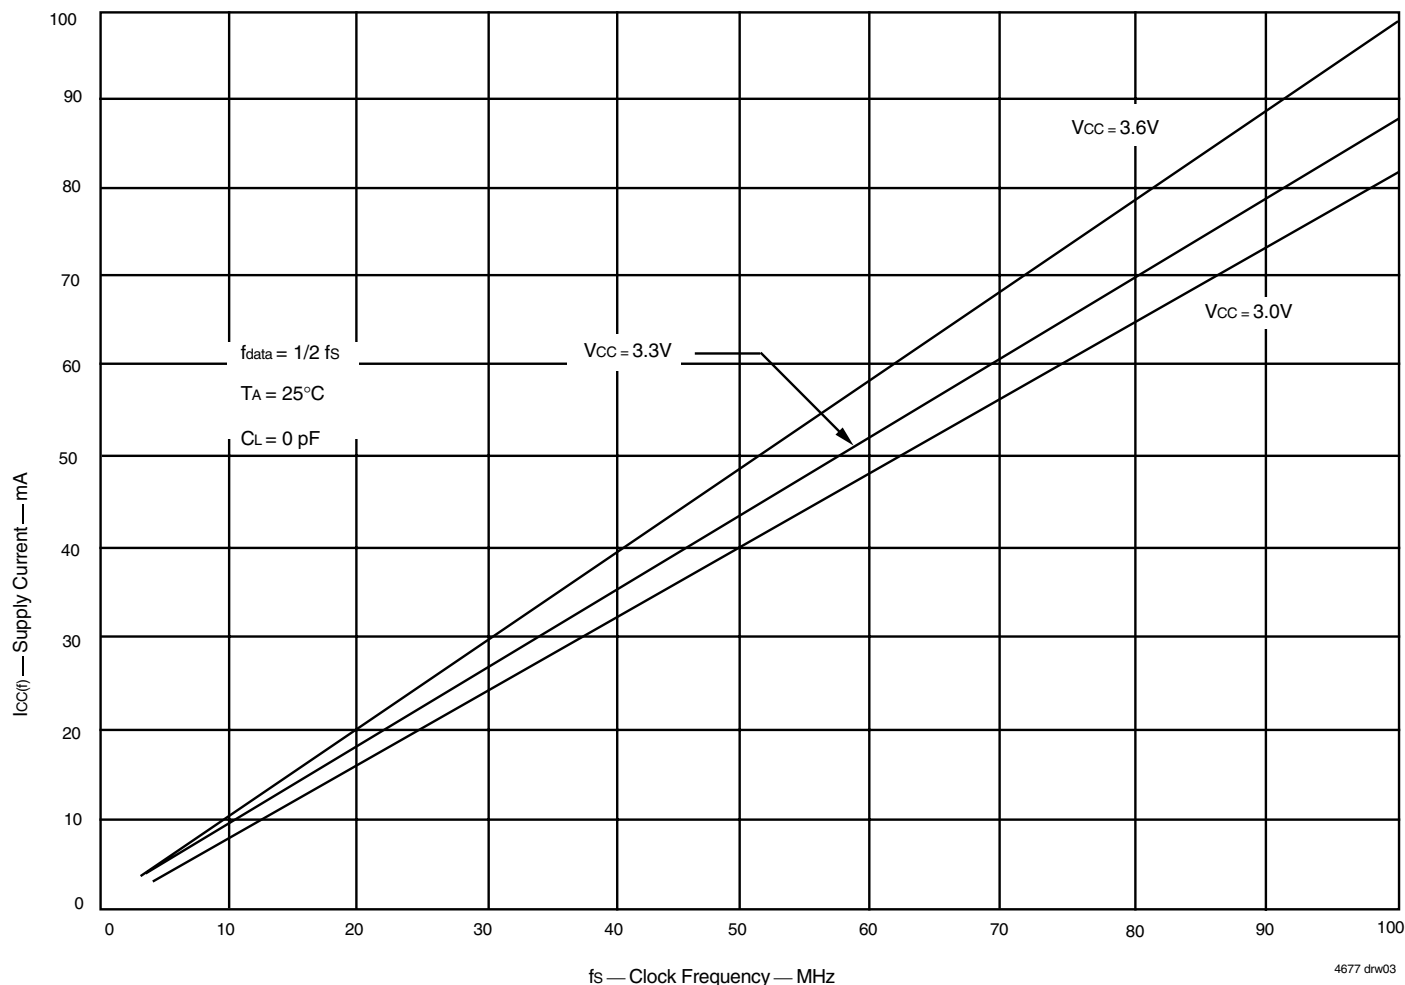

Figure 1. Typical Characteristics: Supply Current (I_{CC}) vs. Clock Frequency (f_s)
- For additional I_{CC} information, see Figure 1, Typical Characteristics: Supply Current (I_{CC}) vs. Clock Frequency (f_s).
The $I_{CC(f)}$ current for the graph in Figure 1 was taken while simultaneously reading and writing a FIFO on the IDT72V3684/72V3694/72V36104 with CLKA and CLKB set to f_s . All data inputs and data outputs change state during each clock cycle to consume the highest supply current. Data outputs were disconnected to normalize the graph to a zero capacitance load. Once the capacitance load per data-output channel and the number of these device's inputs driven by TTL HIGH levels are known, the power dissipation can be calculated with the equation below.
With $I_{CC(f)}$ taken from Figure 1, the maximum power dissipation (PT) of these FIFOs may be calculated by: